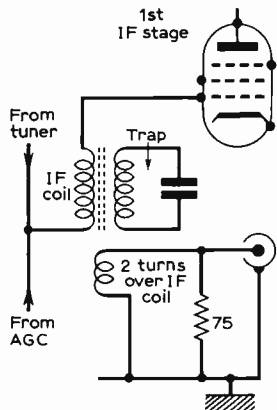

Fig. 4: Feeding the camera signal in at i.f.
in the camera is undesirable, and the easiest way out is to generate at i.f. and feed in at a separate socket (see Fig. 4). This should be done only if shielding is good, to avoid interference with neighbouring sets whose i.f. traps are not all that they might be. The alternative is to modulate at a Band I/III frequency and modify the switching in the receiver so that the v.h.f. tuner is still in use when BBC-2 is selected. Note that the receiver switching also changes the connections to the detector, as noted in a previous part of this series. The modulation in the camera should be positive for 405 (202) and negative if 625 (312) lines are being used.